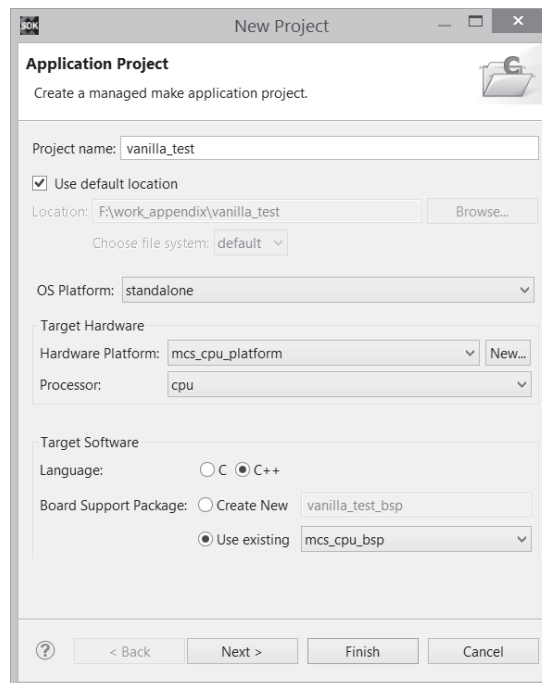

Figure A.16 Application project dialog.
5. Select **File > New > Application Project** and a dialog appears. Enter a name, say `vanilla_test`, for the application project, select the previously created `mcs_cpu_platform` and `mcs_cpu_bsp`, and then click on **C++** button, as shown in Figure A.16. Click **Finish** to create a new application project. The new application project folder appears in the Project Explorer subwindow.